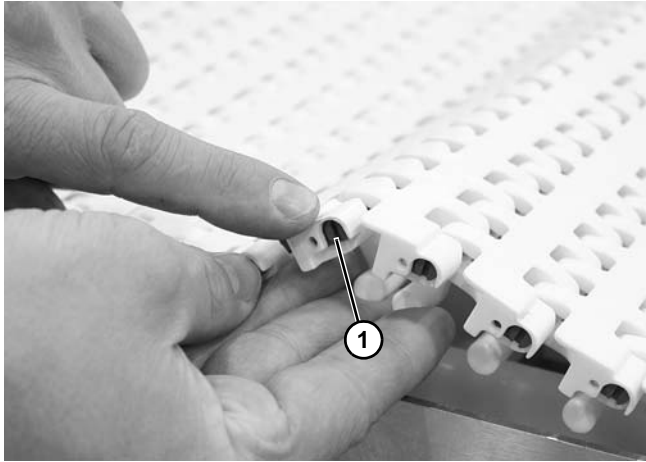

Figure 86
1. Lift up the belt near the tail end of the conveyor, or near a straight section. Locate the rod head with a slot (Figure 86, item 1).